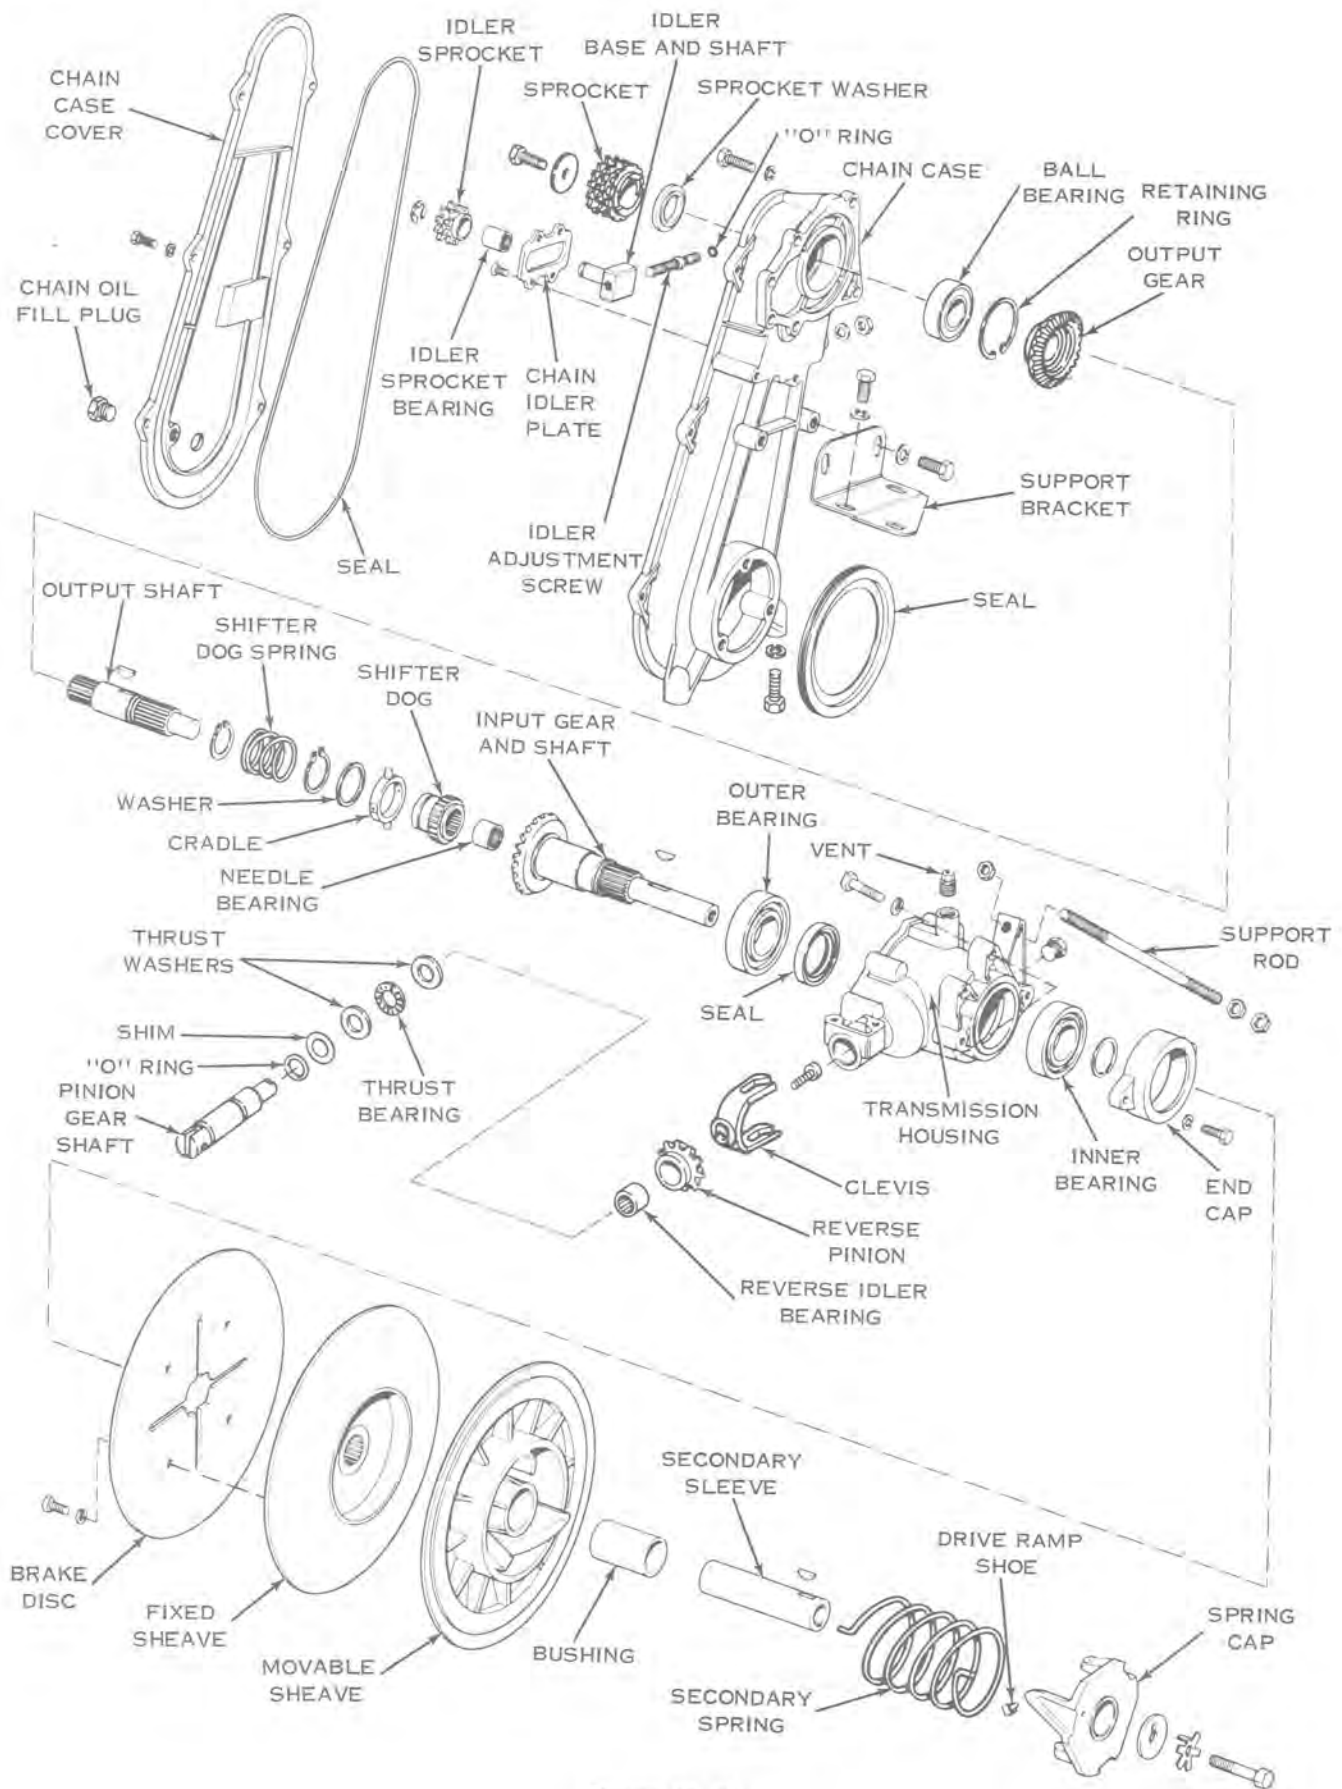

Figure 10-22
- Remove screw, tab lockwasher, secondary washer, spring cap, spring, and sleeve. See Figure 10-22.
- b. Assemble secondary sheave assembly on transmission input shaft in reverse order of disassembly. Engage spring ends in holes in movable sheave and end cap. Start end cap on key, holding end cap stationary turn sliding sheave counterclockwise to next ramp approximately 1/3 turn. Torque sleeve screw to 22-25 ft. lbs. torque and secure with new lockwasher tab. Replace transmission belt guard, belt and brake assembly. See Figure 10-22.
- a. Install input shaft and gear. Use Loctite bearing mount on the O.D. and I.D. of the sealed bearings, see Figure 10-22.